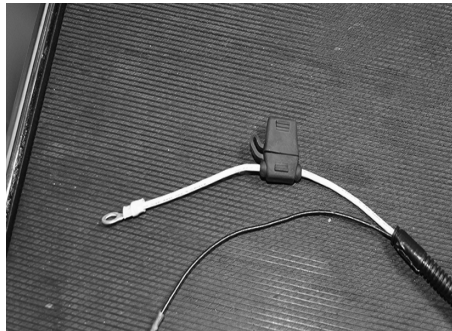

Figure 3-17. Harness Power Wires
21. The power wires of the harness consist of a black negative (-) wire and a fused yellow positive (+) wire. See Figure 3-17.